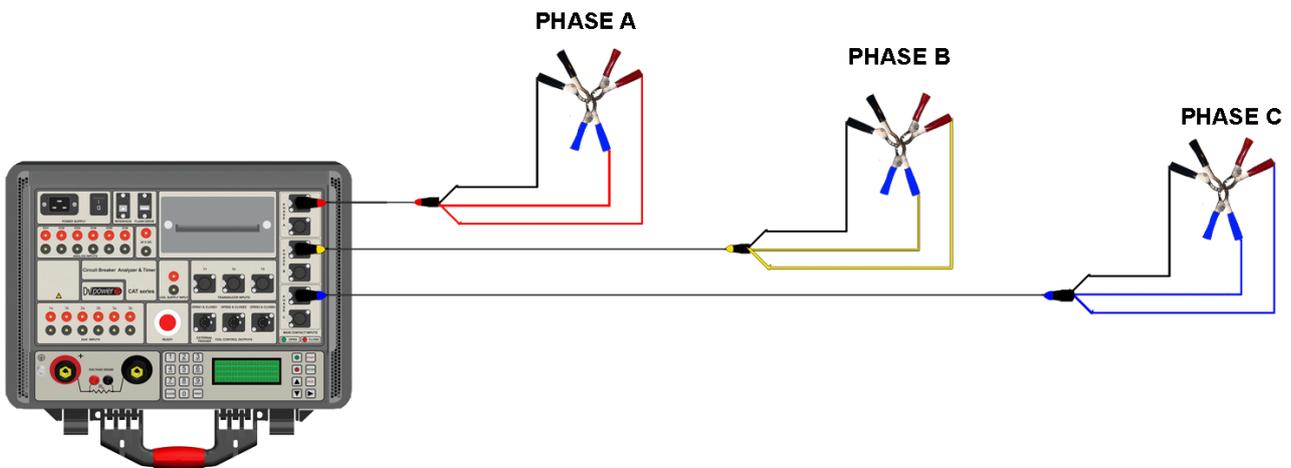

Figure 6-1: Main Contacts test (two break points per phase)
- I. Connect all Main Contact cables to the device, short circuiting clamps, as shown in the Figure 6-1.
Note: In the Figure 6-1 the two break points per phase test is selected as an example